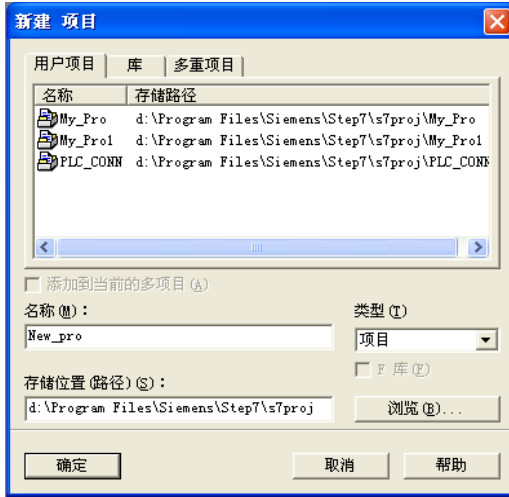
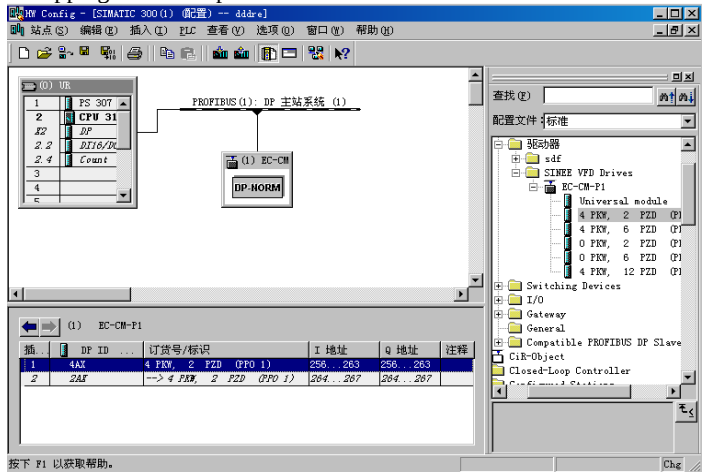

Figure 7-2
Figure 7-20
data output area and data input area shown in Figure 7-2 1 of the V100 version GSD file are the PZD mapping slave parameter addresses. The output and data input data formats are in decimal format and can be entered manually; The data format of output and data input is hexadecimal. For example, 7000H is converted to decimal as 28672; function code F18.16 (1210) is converted to decimal as 4624.
1. Open SIMATIC Manager and click [File->New] in the system menu, as shown in Figure 7-2.
- click Figure 7-20 EM760-CM-P1 under PROFIBUS DP bus Slave icon, pop-up Figure 7-2 1 Figure 7-2 1 The data output area and data input area are the PZD mapping slave parameter addresses, data The data format of output and data input is decimal and can be entered manually . The hundreds and thousands of the data in the output and data input represent the high-order address of the parameter function code of the slave station EM760. The ones and tens represent the high-order address of the parameter function code of the EM760 . The input value is 7001 (decimal), which means the address of the AC motor driver is 7001 (hexadecimal).
Figure 7- 22 Figure 7-2 1 The dialog box after pulling down the scroll bar. Figure 7- 22 The din\_len in the figure indicates the data length in the Data Input area, and dout\_len indicates the data length in the Data Output area. The input value is 1800 (decimal), which means the address of the AC motor driver is 1800 (hexadecimal), which means the inverter parameter F18-00 .